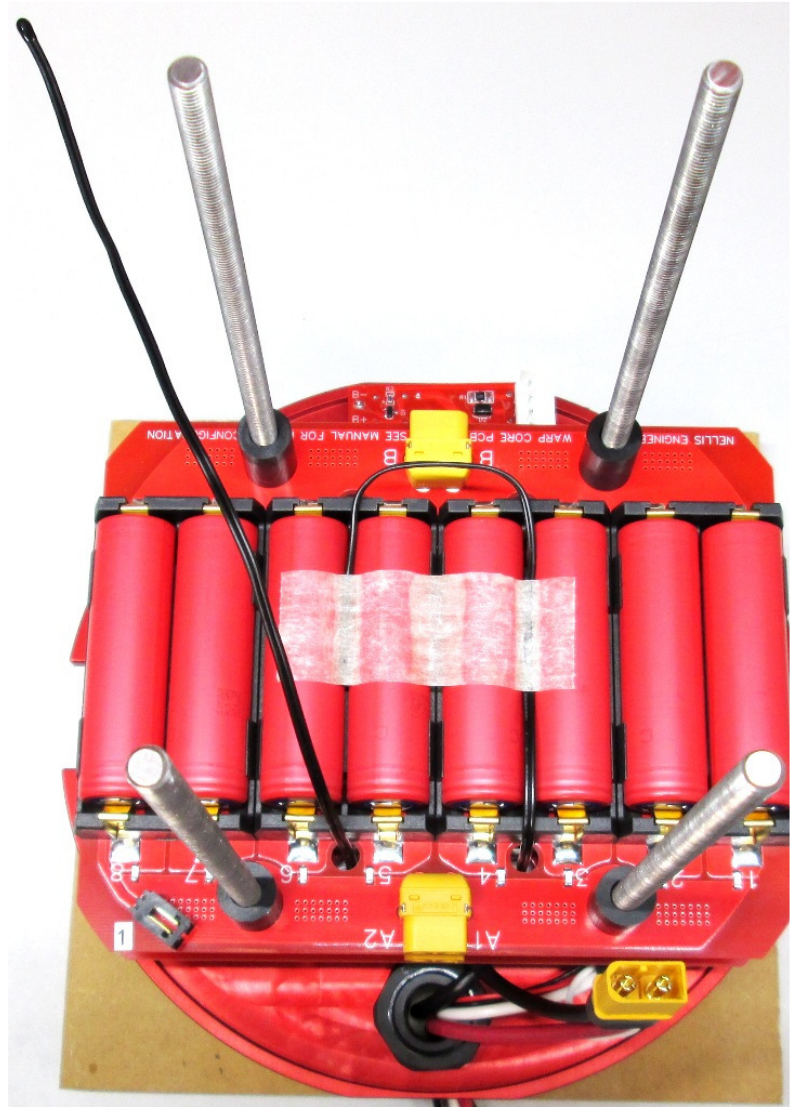

Figure 33
15. Install 4 black plastic 3/4" spacers (one on each threaded rod) and then install layer #1 with the **B – B** printed on the circuit board towards the Charge Control Circuit Board, also passing the temperature sensors through the holes in the layer. Secure the right temperature sensor wire to the cells on layer #1 as shown in Figure 33, using tape. The tip of the sensor should be in contact with the cells.